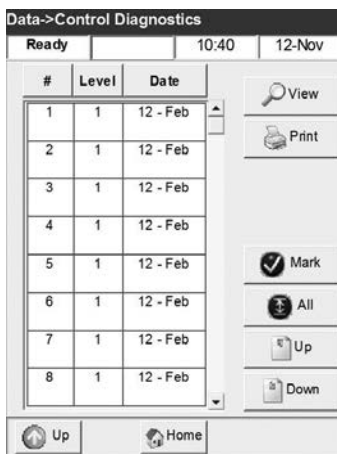
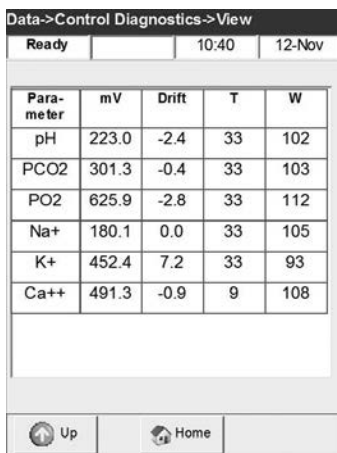

Fig. 7-50 Select Measurement
Fig. 7-51 Control Diagnostics
- In the **<Data - Control Diagnostics>** screen (Fig. 7-50), select the desired measurement and press the **View** button to display the control results (Fig. 7-51). Use the **Up** and **Down** buttons to display the previous or next page of results.
- To print individual results, highlight the desired measurement (Fig. 7-50). To print groups of results, highlight the first measurement to be printed, press **Mark**, then select the last measurement to be printed. All the measurements in between will be selected. Press **All** to select all results.